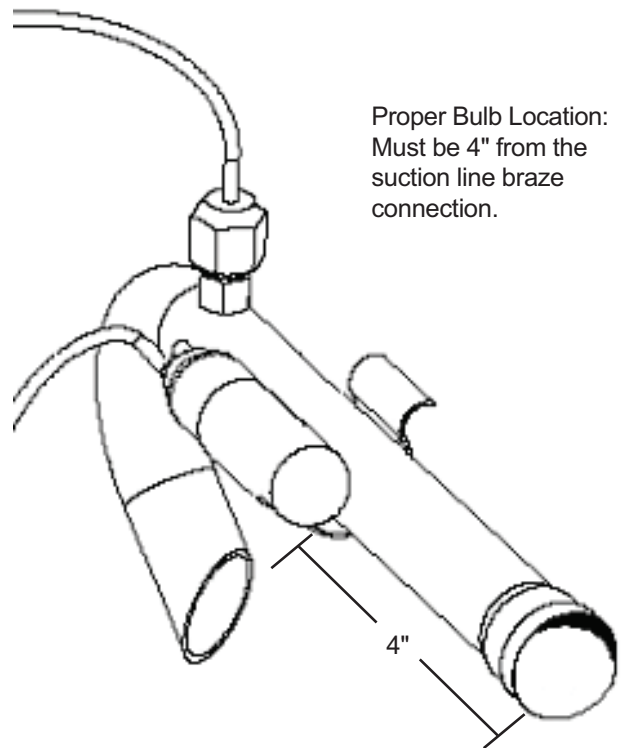

Figure 3
8. To avoid damaging the TXV, remove the bulb or wrap a wet rag around the suction line between the TXV bulb and the braze joint before brazing. Clamp the TXV bulb to the gas line as illustrated in figure 3. The entire length of the bulb must be in firm contact with the gas line. The remote bulb tubing must not be allowed to touch a surface colder than the remote bulb location. The remote bulb tubing must be isolated from rubbing any other components. Insulate the bulb with the supplied insulation in the kit.